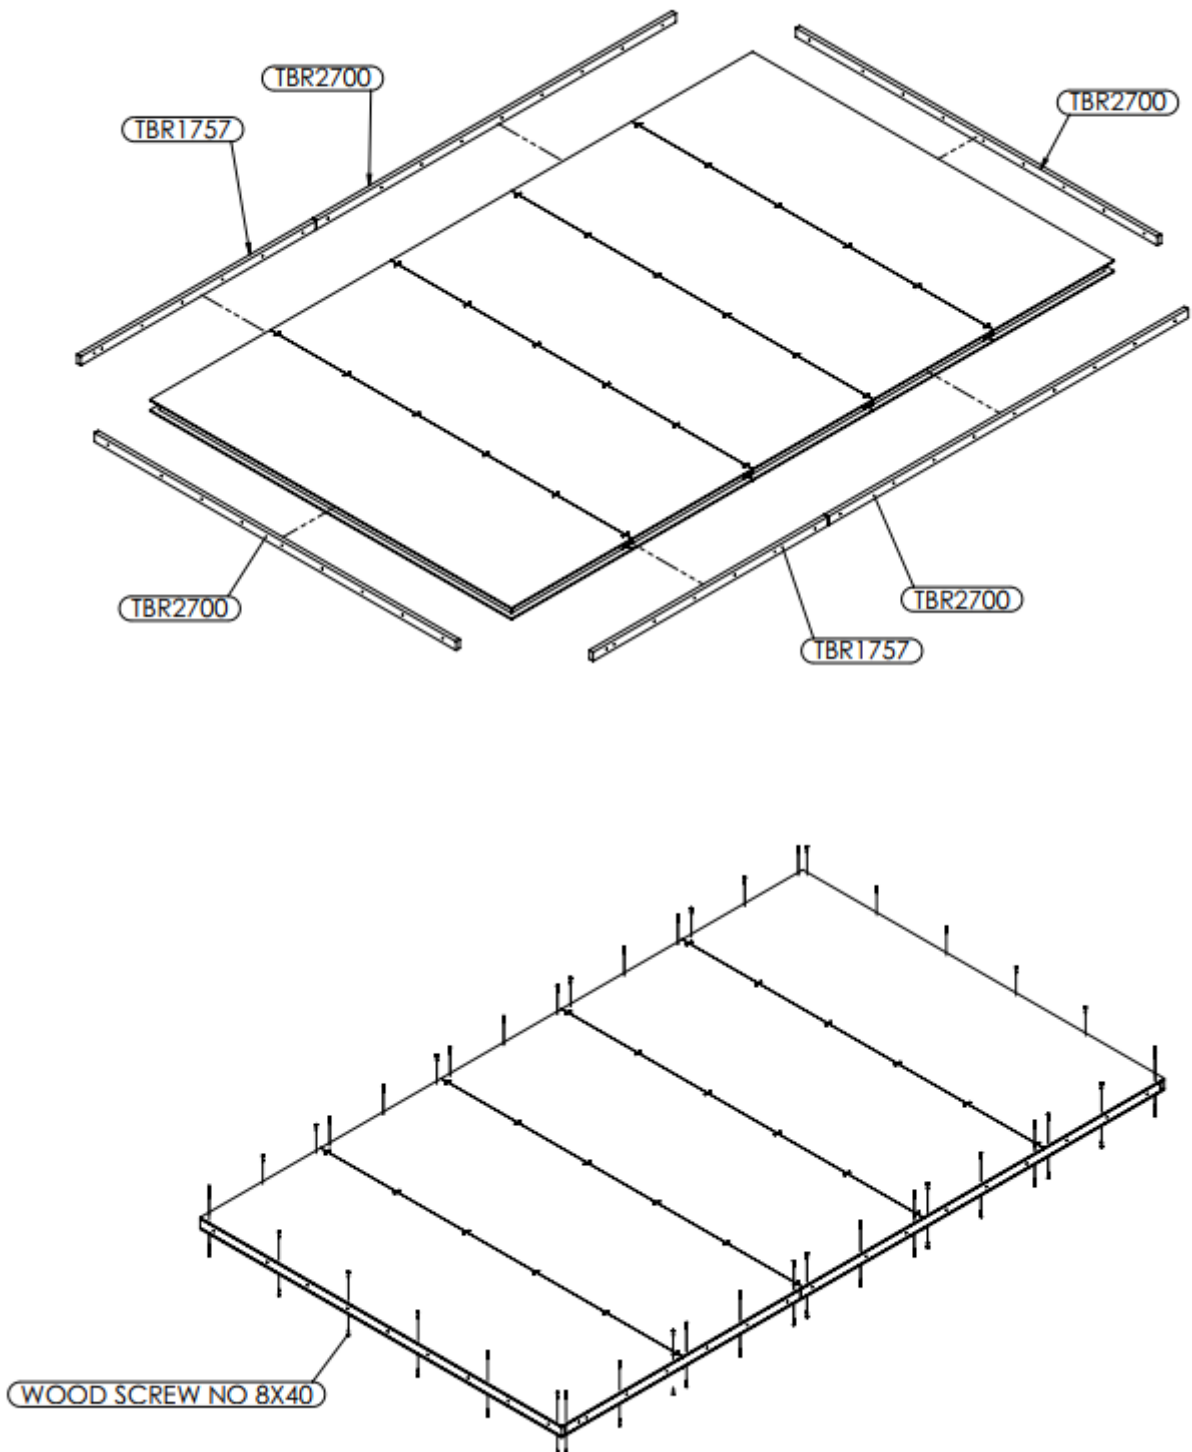

Figure 3: Connecting the side timbers
**5.** After positioning and securing the floor panels, place the side timbers at the panel edges (Figure 3).
6. Fit side timbers around the perimeter (Figure 3).